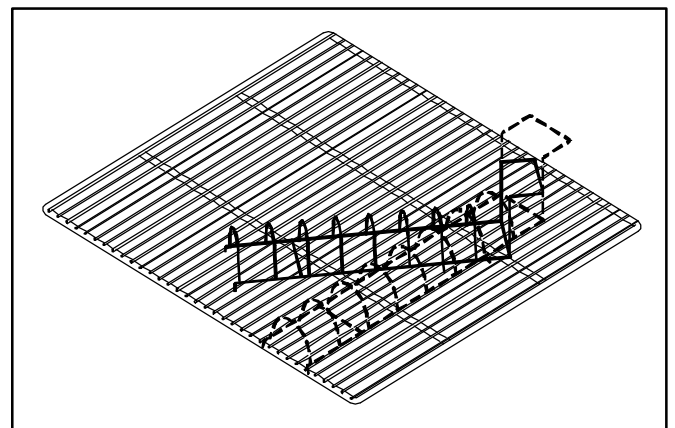

Figure 2. Salad Rack
- Gently squeeze the front of the rack and slide the two feet between the shelf wires (See Figure 2)